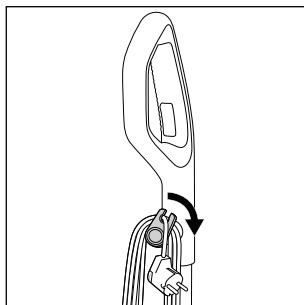

Fig. 12
- ◆ Unwind the power cable ⑰ completely from the upper and lower cable retainers ⑯/⑳. To unwind the power cable ⑰ quickly from the cable retainers ⑯/⑳, pull the upper cable retainer ⑯ out a little way and turn it downwards (see fig. 12).